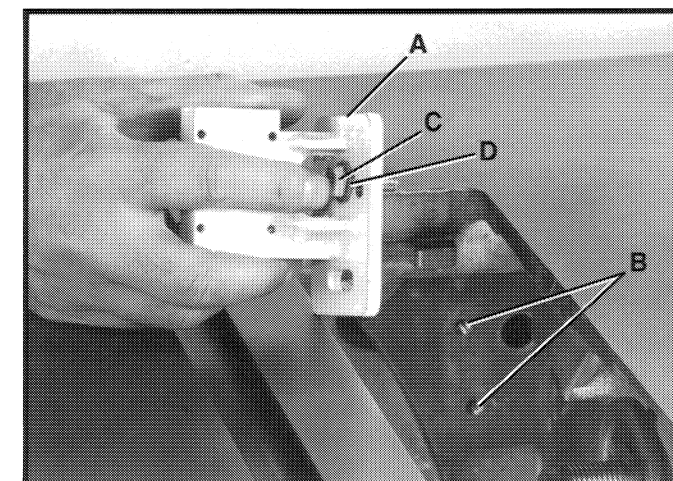

Fig. 2
3. Align the slotted holes in splitter mounting bracket (A) Fig. 2, with the threaded holes (B) in the trunnion and fasten with two 5/16-18 x 1" long hex head screws (C) (one of which is shown) and two 5/16" flat washers (D).